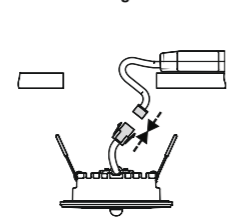

Fig. 5
- Install the downlight into the ceiling cut-out using the two spring clips provided (see Figs. 5 and 6).